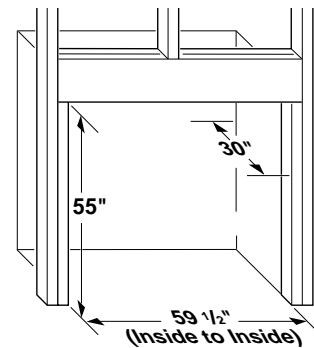

Figure 6a
1. Frame in rough opening. The firebox framing should be constructed of 2 x 4 lumber or heavier. Use dimensions and rough opening layout in Figure 6a. Adjust framing so that firebox flushes with finished wall surface. If installing in a corner, use dimensions in Figures 6b for rough opening.